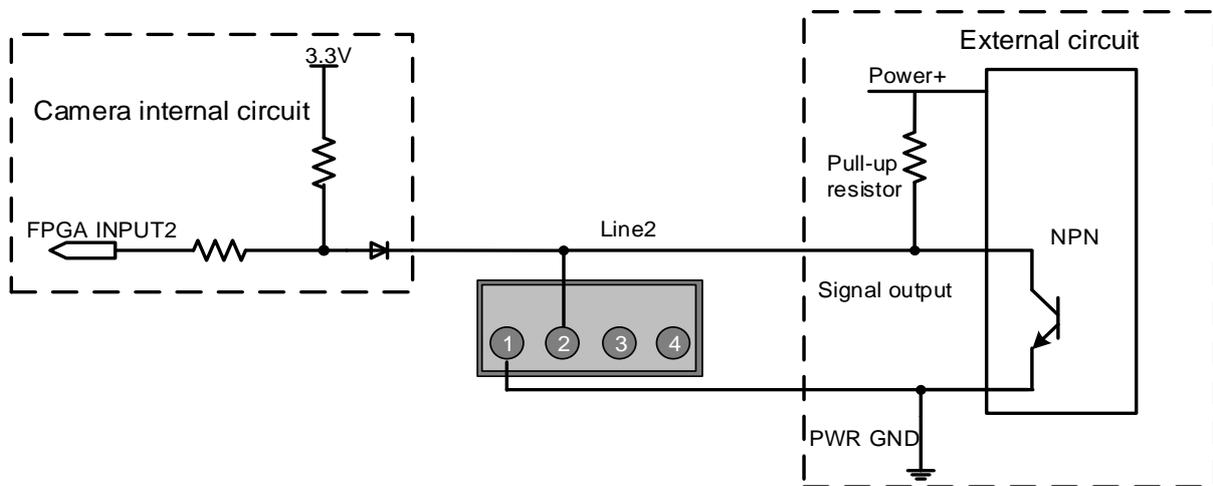
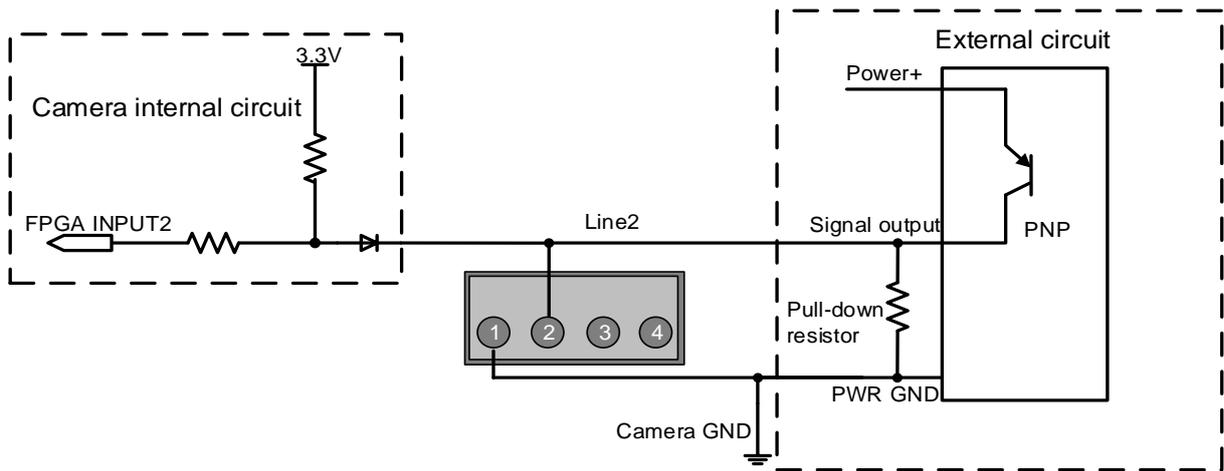

Figure 7-13 NPN photoelectric sensor connected to Line2 input circuit
Figure 7-14 PNP photoelectric sensor connected to Line2 input circuit
- When input of Line2/3 is high, input current is lower than 100μA. When input of Line2 is low, input current is lower than -1mA. The connection method between Line2/3 input circuit and NPN/PNP photoelectric sensors is shown in Figure 7-13 and Figure 7-14. The relationship between the pull-up resistor value and the external input voltage is shown in Table 7-8